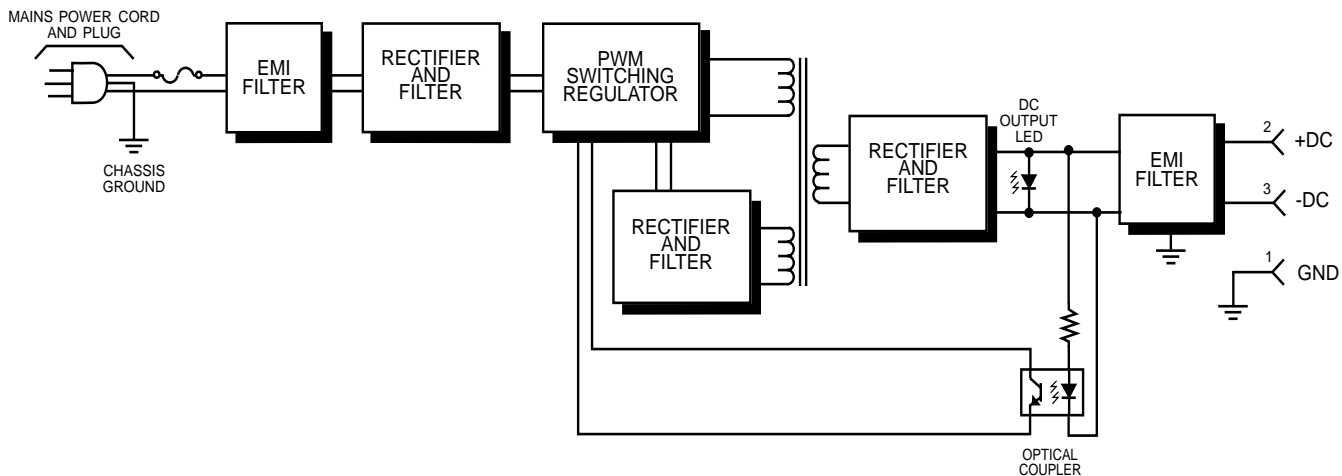

Figure 4 Model 712 Power Supply block diagram.
5.1 GENERAL The circuit description is intended to familiarize you with the Model 712 for engineering and applications use. Repairs to the unit should not be attempted as they will expose you to dangerous voltage levels. Please refer to the block diagram, Figure 4 (on page 4), when reading this technical description.